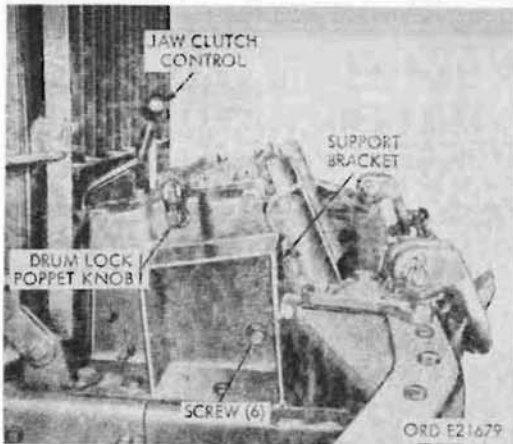

Figure 235. Front winch disconnect points
- (5) Remove six screws, lockwashers, plain washers, and mounting bolt spacers from each end of the winch (fig. 235). Raise the winch to clear the bumper and pull forward from the truck.
- (1) Attach a hoist to the winch, and raise the winch to clear the bumper. Lower into place and align the mounting holes in the winch with those in the support brackets (fig. 235). Secure the winch to the support brackets with six mounting bolt spacers, plain washers, lockwashers, and screws for each bracket. Tighten all mounting screws securely. Remove hoist. Adjust winch drag and automatic brakes (par. 208).
- (2) Install shear pin, insert cotter pin and adjust stop collar (par. 210).
- (3) Install winch line (a(1) above) on winch drum.